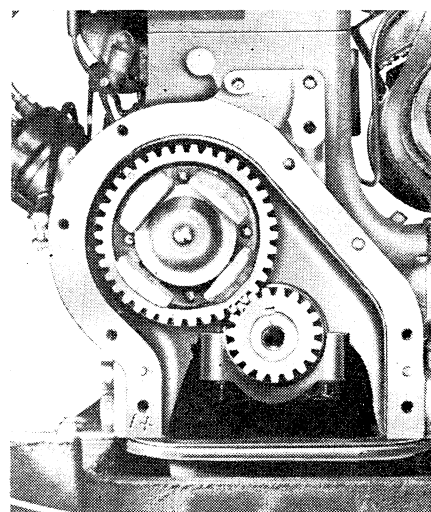
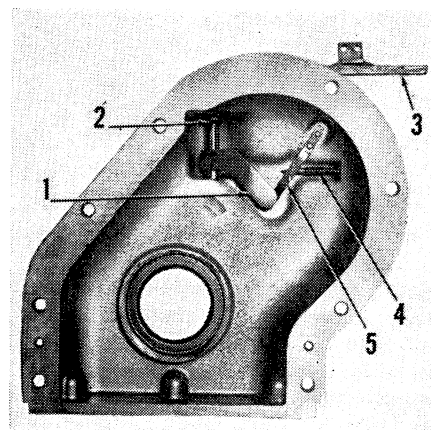

Fig. MH13—Pony timing gears, showing position of governor weights and carrier, attached to camshaft gear.
Fig. MH14—Pony governor lever shaft assembly in timing gear cover.
33. **LINKAGE ADJUSTMENT.** To check or set all linkage, first adjust carburetor-to-governor rod (R) so that there is $\frac{1}{32}$ inch clearance between throttle lever and its wide open stop at (G) when governor lever is in wide open position. Turn bumper screw (D) out so it is inoperative. Check to see that all linkage operates freely; then start engine and warm to operating temperature; then adjust as outlined in preceding paragraph.
34. **OVERHAUL GOVERNOR.** To remove governor, first remove timing gear cover as outlined under TIMING GEAR COVER section. Fig. MH13 shows position of weights and carrier, plunger and shaft in the camshaft gear. Fig. MH14 shows governor lever shaft and bumper spring and screw in timing gear cover. Inspect weights and pins for wear; also check weights for amount of wear on their plunger-contacting surface. Inspect plunger for wear on its shaft and also on weight-contacting surface of its cup. If lever shaft bearing in timing gear cover is worn, remove the rivet which attaches arm (1—Fig. MH14) to lever shaft, take out cotter pin (2) and pull lever shaft from cover. Note that a steel ball is located in lower bore of cover; bottom of lever shaft rests on this ball. The worn bearing may be driven out of upper bore in cover and renewed. Renew the felt seal also. If bumper spring (5—Fig. MH14) is loose in cover, rivet it in place.